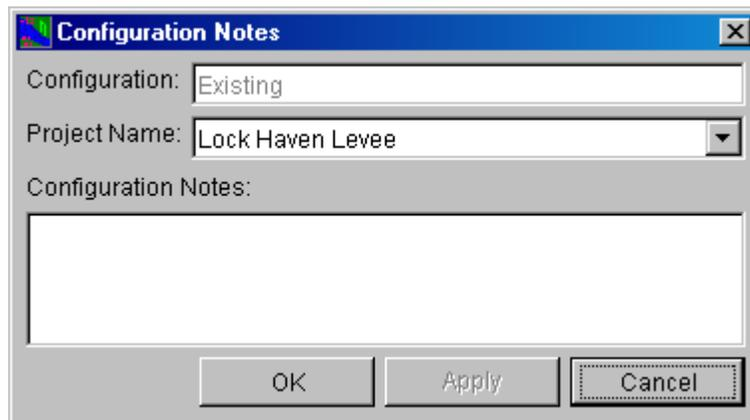

Figure 6.11 Configuration Notes - Levee
2. From the shortcut menu, select **Configuration Notes**. This command opens a dialog box (Figure 6.11) for entering text information about a project that is specific to the configuration.